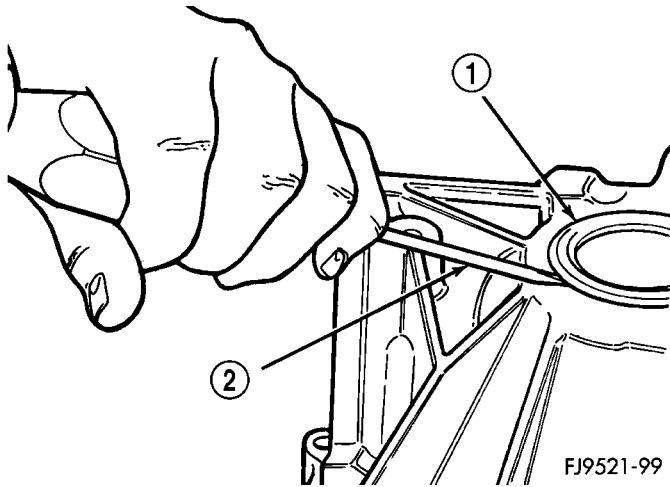

Fig. 67 Axle Shaft Seal Removal
- (1) Remove axle shaft. (Refer to 3 - DIFFERENTIAL & DRIVELINE/HALF SHAFT - REMOVAL)
- (2) Insert a flat-blade pry tool at outer edge of axle shaft seal (Fig. 67).
- (3) Tap on the pry tool with a small hammer and remove axle shaft seal.